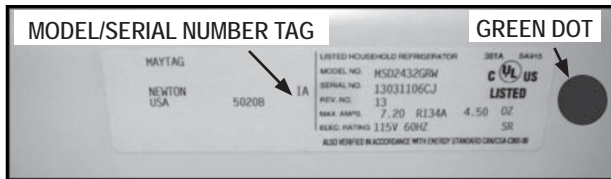

Figure 1
**NOTE:** Verify that the refrigerator has not been previously reworked. An identification sticker (green dot) next to the unit's model/serial number tag indicates the overload and start device have already been upgraded (See Figure 1).